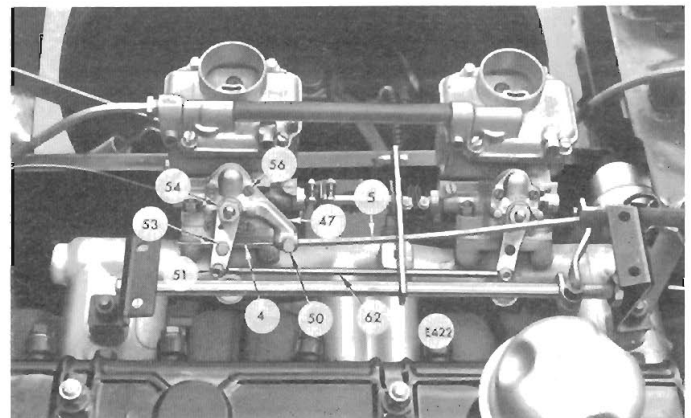

Fig. 38. L.H. view of carburetors
**Starter Block — Removal (Fig. 38)**